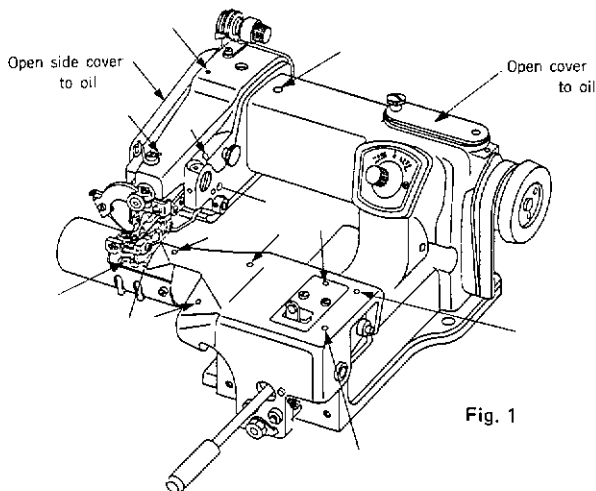

Fig. 1
4. Oiling and Maintenance (Fig. 1)
It is important not to operate the machine before oil of good quality has been dropped at all points shown on the oiling charts Fig. 1. When breaking-in a new machine, oiling should be done sparingly several times a day. Thereafter, one oiling daily will be sufficient. After oiling, wipe machine carefully to avoid soiling of the material.